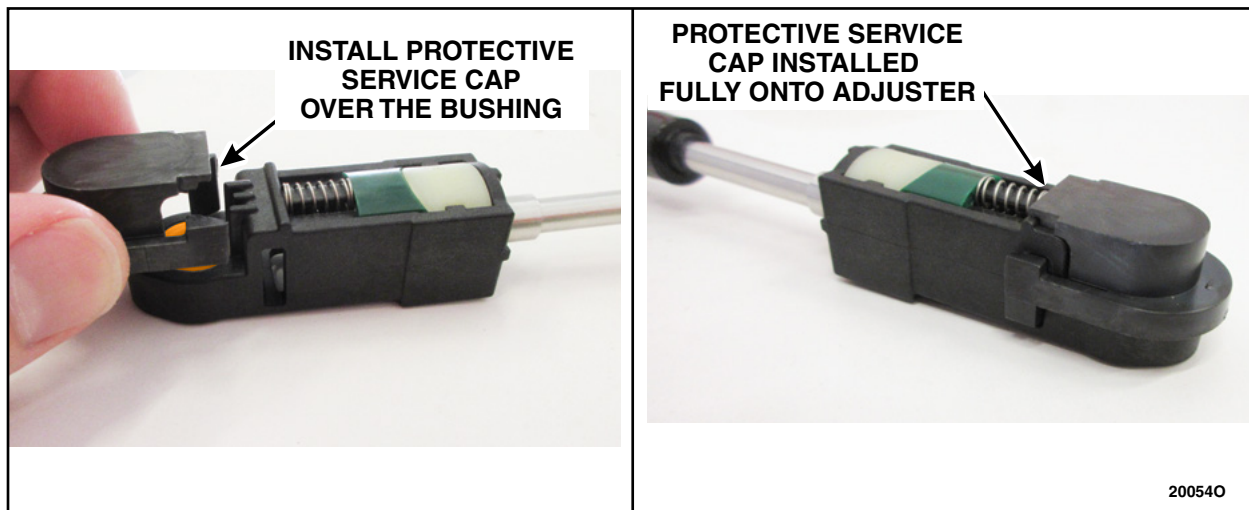

FIGURE 13
14. Install the new cap onto the selector lever cable adjuster. Clip one side into the adjuster body and then slide the other onto the housing until it snaps into place. The protective cap should cover the bushing and the terminal end of the adjuster. See Figure 13.